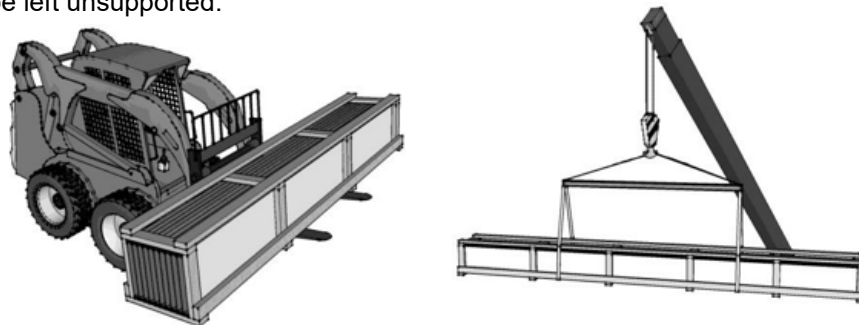

Figure 2: Lift truck with panel bundle. Crane with spreader bar and panel bundle.
- Lift trucks with forks minimum 5 feet apart can be used for lifting bundles up to 25 feet long (Figure 2). Reasonable care should be taken while unloading to prevent damage from shocks or sudden movements.